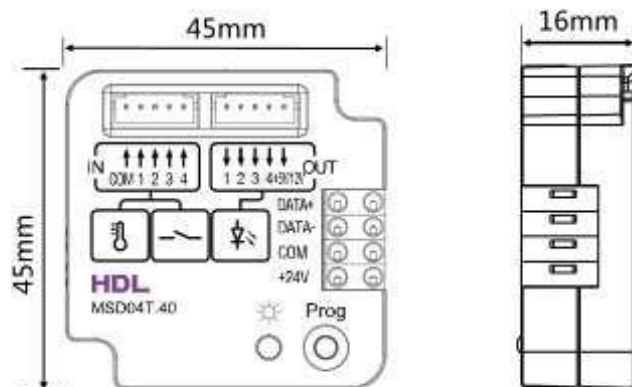

Figure 2. Dimensions-Front View Figure 3. Dimensions-Side View
1.2.1 Dimensions - See Figure 2 - 3